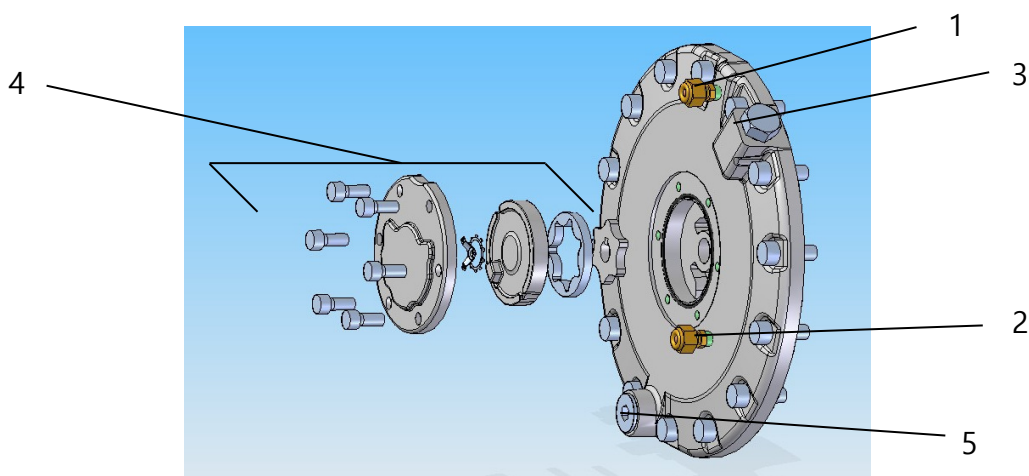
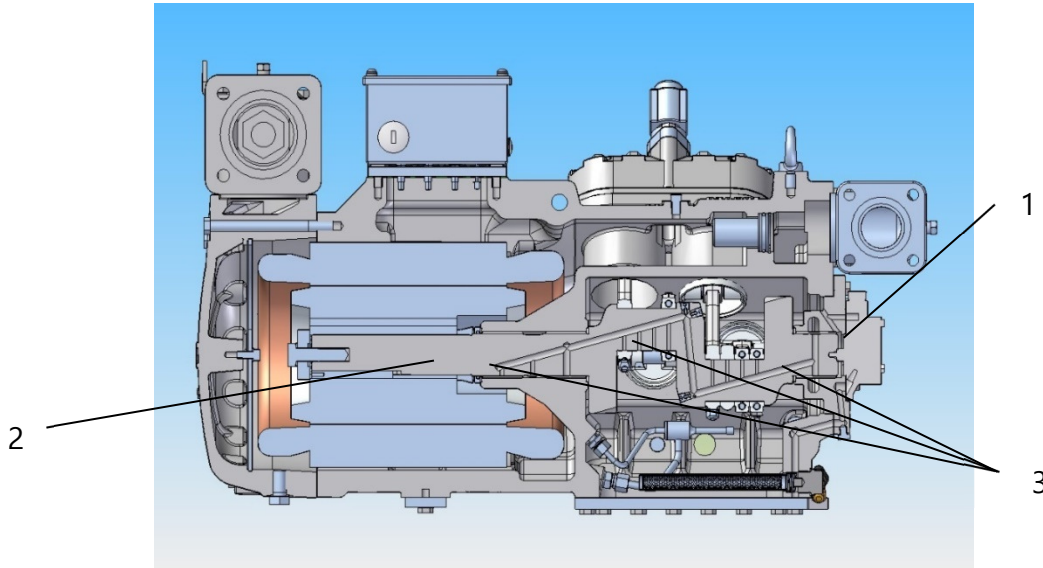

Fig. 10 Gear pump for compressors RP1-L/H4xx-F with forced lubrication
Fig. 12 Compressor model/RP1-L/H4xx RP1-L/H6xx RP1-L/H8xx with pump lubrication
The connections for electronic differential pressure device (option) are machined over the casing cap (ref. 3 in Fig. 10).
An optional mechanical differential pressure device (option) could be connected to the high and low pressure connections (ref. 1, 2 in Fig. 10), machined over the casing cap.
The oil gear pump (ref. 1 in Fig. 12) is a separate part assembled onto the discharge sleeve bearing cover casing.
A cross section of a compressor model with pump lubrication is shown in the Fig. 12.
The measurement of the differential pressure P_{oil} has to be done between (1) and (2) connections shown in Fig. 10 or Fig. 12.